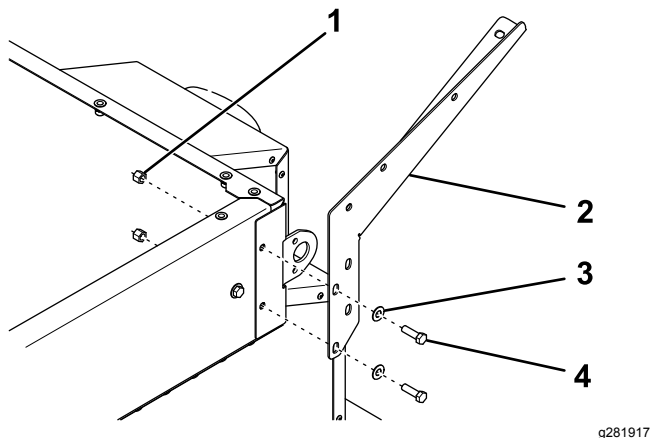

Figure 2
3. Secure a sideplate to each corner of the hopper using 2 bolts, washers, and locknuts (Figure 2).